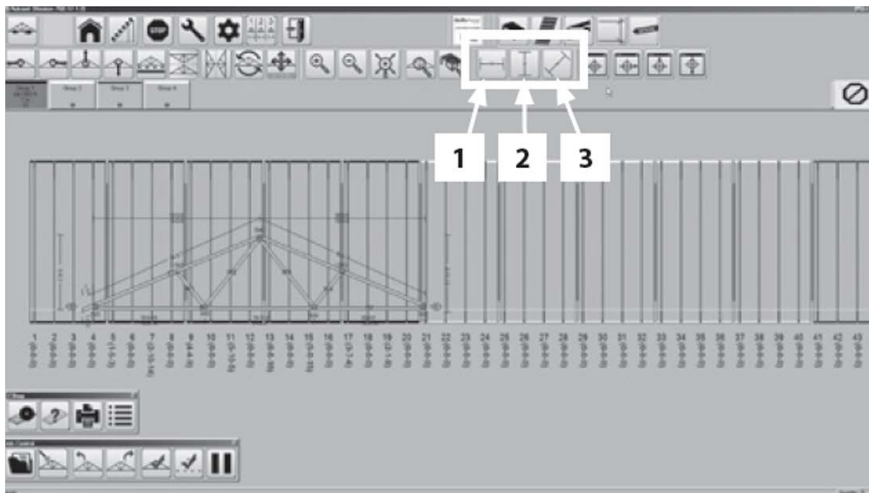

FIGURE 40
The AutoSet Plus provides tools to create custom dimensions by snapping between any two points. There are three different types of dimensions that can be created using the dimension icons on the main screen (Figure 40):
4. Figure 40, Group 1 starts from axis 1 and ends at axis 22.
5. To accept the changes, click OK icon (1).
6. To cancel and return to the Main Menu, click Exit icon (2).